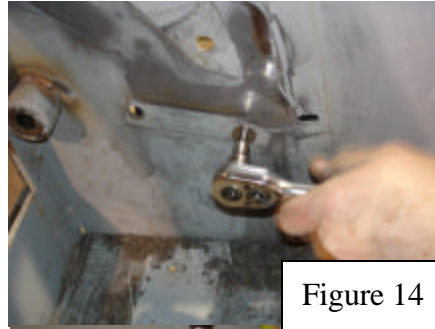
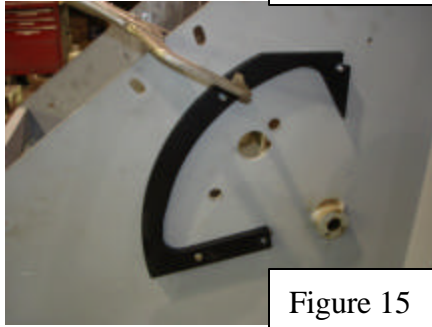
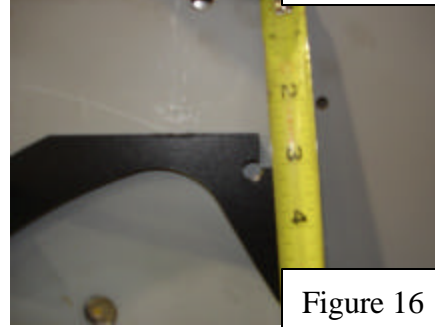

Figure 14
Figure 15
Figure 16
21. Use bolt hole (#9 figure1) and 3/8-16 Flat head bolt from inside (figure 14) to bolt B6747 1pc Gate Guide to out side of frame (figure 15) to use as template to drill new mounting holes. Set top edge at 2 1/2" from top of frame side plate and clamp to hold in place mark for holes (figure 16)